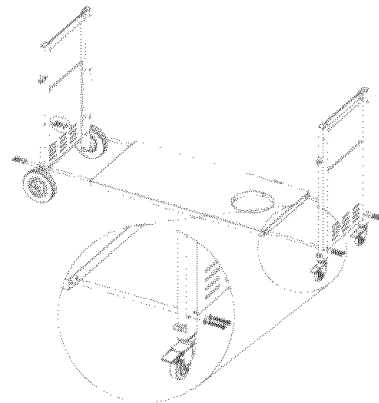

Figure 3
3. Assemble cart leg with bottom panel using (8) $\frac{1}{4} \times 7/5$ " Phillips head screw and (8) $\frac{1}{4}$ " lock washers.(Fig.3)